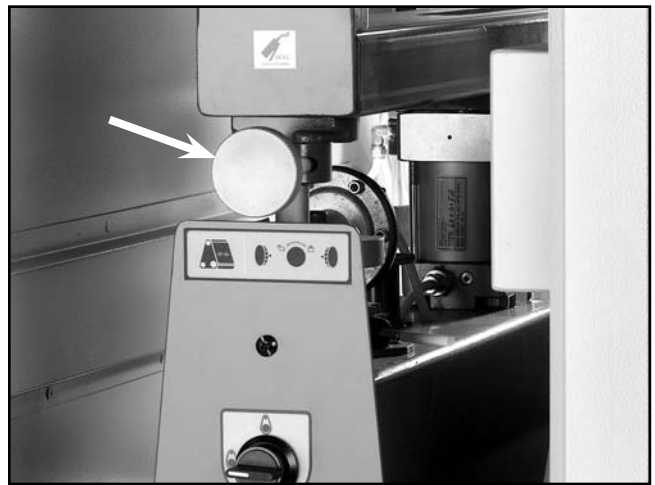

Figure 31. Oscillation adjustment knob.
- If the oscillation time to the **right** is 2 seconds, but the oscillation time to the **left** is longer, loosen the oscillation adjustment knob (**Figure 31**) and move it to the **left** until proper tracking is achieved. Tighten down the oscillation adjustment knob when satisfied.